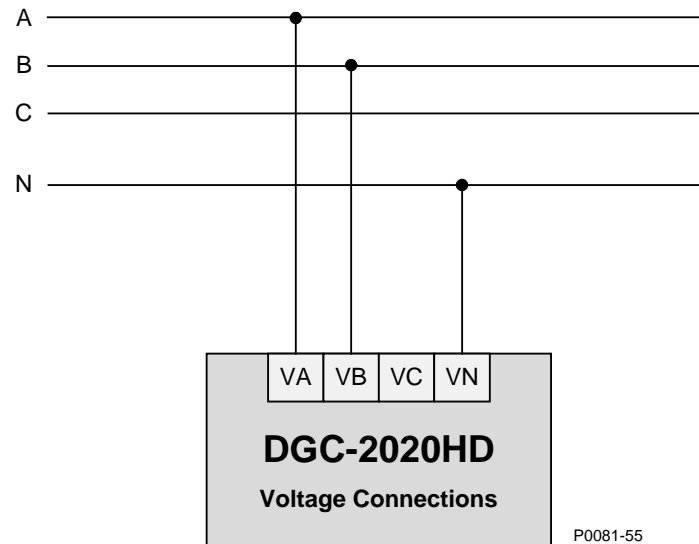

Figure 10. Single-Phase A-B Connections
- Single-phase A-B..... Figure 10
Figure 10 illustrates typical single-phase A-B connections for all DGC-2020HD bus voltage sensing connections: Generator, Bus 1, and Bus 2. Use the terminal numbers listed below for connecting the desired bus type. Refer to the *Terminals and Connectors* chapter for rear panel terminal numbering.